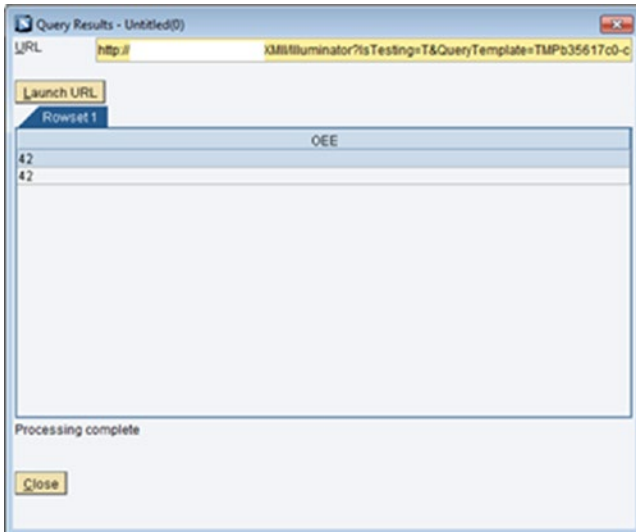

Figure 6-24. MDO Query execution result screen
7. Test and execute the query result. See Figure 6-24.